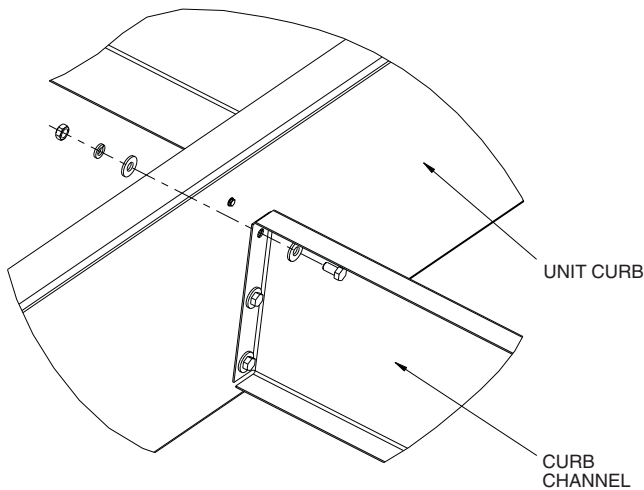

Fig. 10 — Fasten Cross Supports
3. Fasten cross supports, when required, per the drawings with supplied screws as shown in Fig. 10.